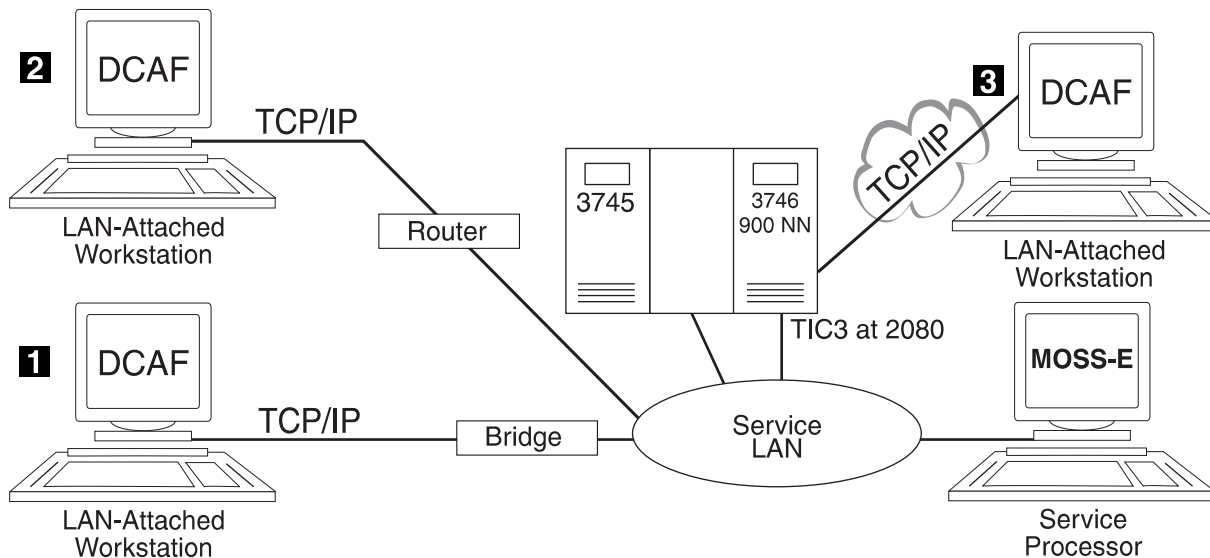

Figure 12-1. Types of TCP/IP Service LAN-Attached Remote Workstations
- A **bridge** with filtering to the service LAN (see **1** in Figure 12-1).
- A **non-3746** router (see **2** in Figure 12-1)
- The **3746** router (see **3** in Figure 12-1).
Step 5. Record the **Service Processor IP address** (this will be used in Step 7 on page 12-4). If you have a link through the 3746 (see **3** in Figure 12-1 on page 12-1), enter the **TIC3 2080** address in the **SP default router** field and click **Next** and **Close**.